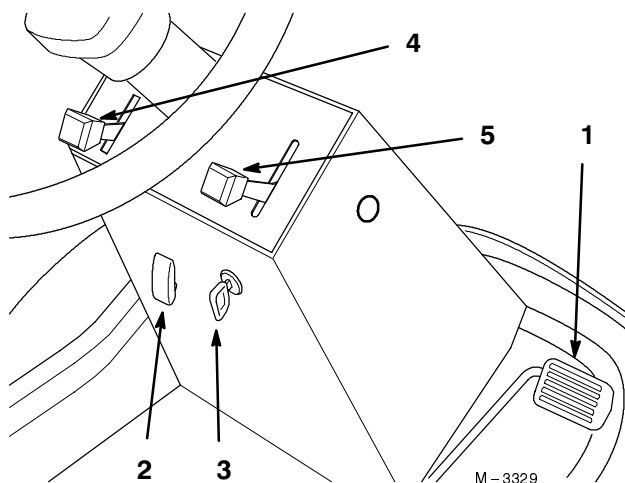

Figure 9
1. Release pressure on the traction pedal to stop movement. (Fig. 9).
2. To engage lift cover and move the PTO switch to the "ON" position (Fig. 9).
1. Closing the cover moves the PTO switch to the "OFF" position (Fig. 9).
1. To go forward, place your foot on the traction pedal (Fig. 9).
3. Slowly press on the upper pad of the traction pedal to move forward (Fig. 9).
1. To go backward, place your foot on the traction pedal (Fig. 9).
3. Slowly press on the lower pad of the traction pedal to move rearward (Fig. 9).